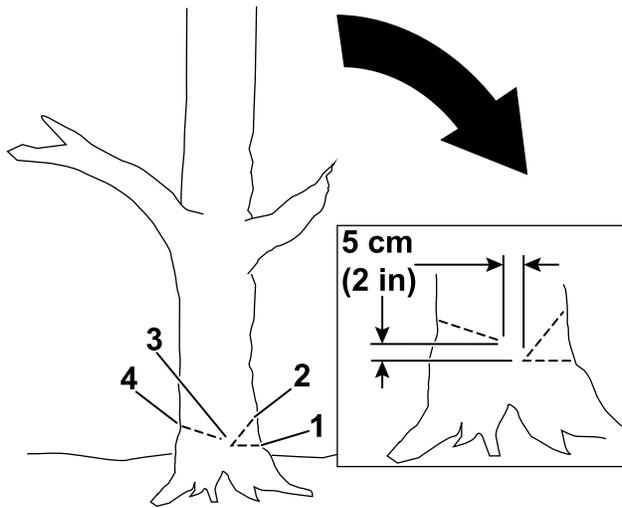

Figure 15
4. Make the first cut a third of the way through the tree diameter on the side where you want the tree to fall (Figure 15).
5. Make a second cut to form a notch, starting the cut at least 5 cm (2 inches) above and away from the first cut (Figure 15).
6. Make the back cut from the opposite side of the notch and about 5 cm (2 inches) higher than the bottom of the notch as shown in Figure 15.
Important: Stop the third cut 2.5 to 5.0 cm (1 to 2 inches) from the notch to form a hinge between the cuts (Figure 15), which keeps the tree from falling in the wrong direction or twisting as it falls.
Note: As the back cut nears the hinge (Figure 15), the tree should begin to fall.